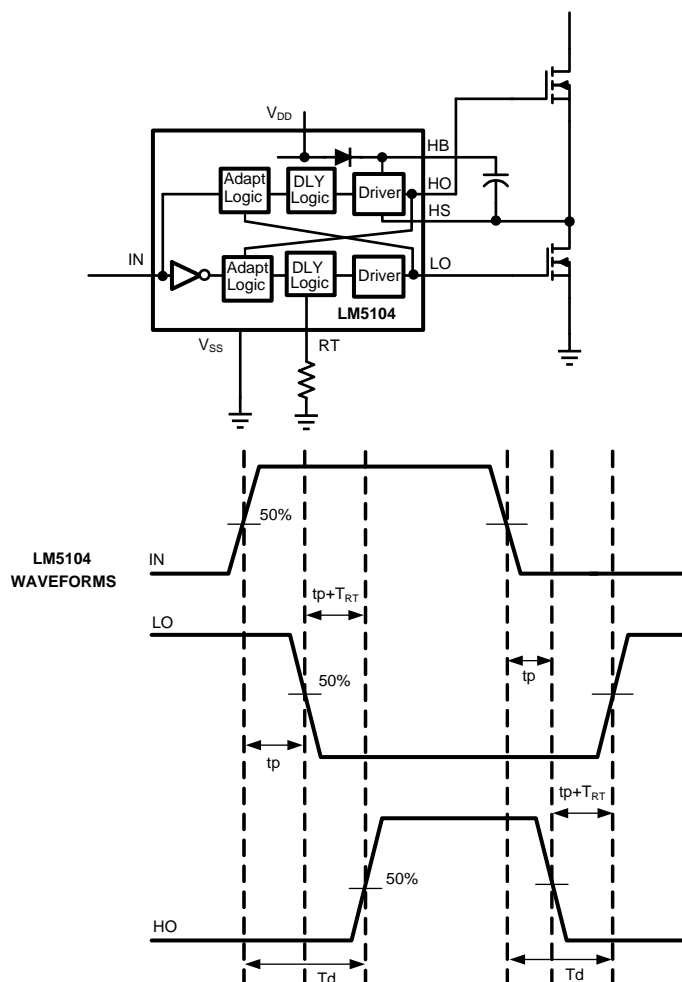

Figure 16. Application Timing Waveforms
LM5104 is a high voltage, high speed dual output driver designed to drive top and bottom MOSFET's connected in synchronous buck or half-bridge configuration, from one externally provided PWM signal. LM5104 features adaptive delay to prevent shoot-through current through top and bottom MOSFETs during switching transitions. Referring to the timing diagram Figure 16, the rising edge of the PWM input (IN) turns off the bottom MOSFET (LO) after a short propagation delay (t_p). An adaptive circuit in the LM5104 monitors the bottom gate voltage (LO) and triggers a programmable delay generator when the LO pin falls below an internally set threshold ($\approx V_{dd}/2$). The gate drive of the upper MOSFET (HO) is disabled until the deadtime expires. The upper gate is enabled after the TIMER delay ($t_p + T_{RT}$), and the upper MOSFET turns-on. The additional delay of the timer prevents lower and upper MOSFETs from conducting simultaneously, thereby preventing shoot-through.